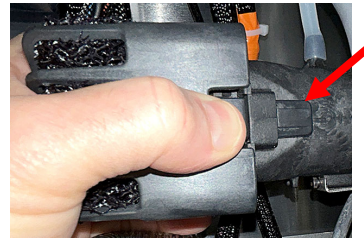
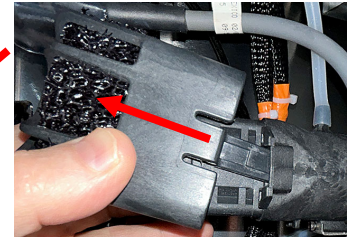

Figure 12
Figure 13
- 3) Remove the filter bracket by gently pressing in on the left and right tabs on both sides of the bracket (see Figure 12), while gently pulling the bracket off the fan (see Figure 13).